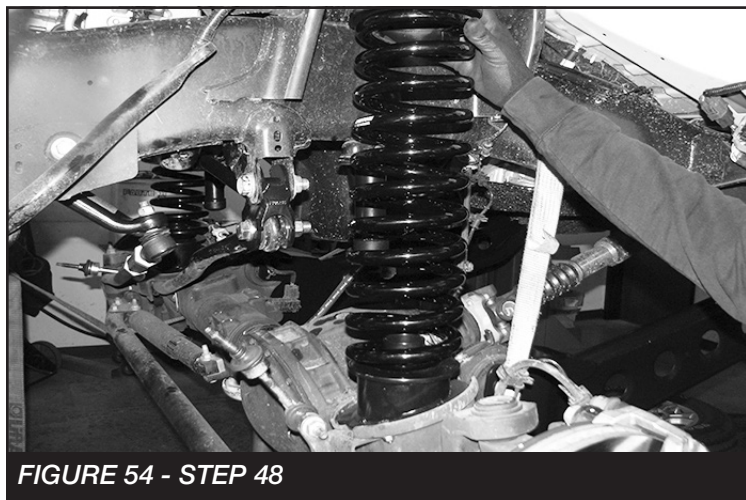

FIGURE 54 - STEP 48
48. Locate and install the new coil spring (FT44316BK) using the upper factory coil spring isolator. The lower isolator will not be used. **SEE FIGURE 54**